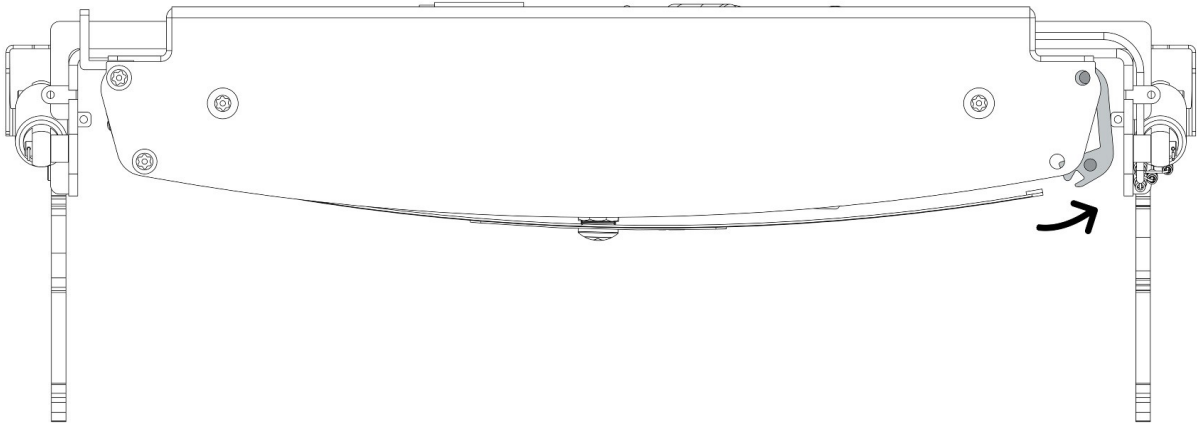

Fig 12.1d
- Looking from the top (Fig 12.1d) the aluminum beam can now freely rotate in order to release the front cover.